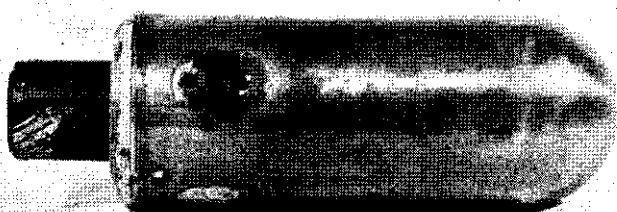

Figure 51.—50-mm incendiary grenade for use in Model 89 (1929) 50-mm grenade discharger.
(1) *Model 89 (1929) 50-mm high-explosive shell.*—The discharger fires high-explosive (fig. 50; see also fig. 31, p. 50), incendiary (fig. 51), smoke, and signal projectiles. The Model 89 (1929) high-explosive shells which have been examined weigh 1 pound 12
(3) *50-mm incendiary grenade*.—The 50-mm incendiary grenade (fig. 51) is a cylindrical sheet-metal tube with a semispherical nose, and is covered with a clear lacquer. Around the side of the grenade are four silver foil disks, each disk covering seven holes through the grenade casing. The base is of light metal, threaded to receive the propelling charge.